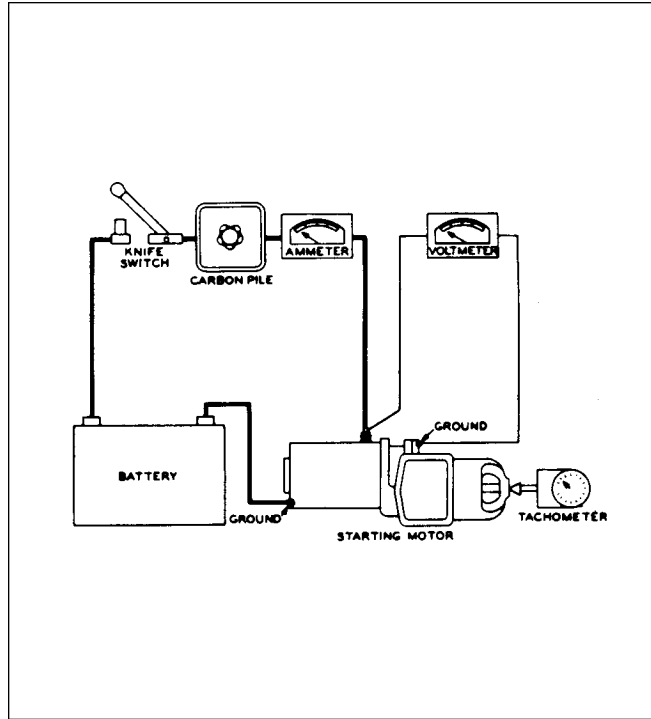

Figure 11-42. No-Load Test Hook-Up
- a. After the starting motor is reassembled, it should be tested to see that the no-load current at a certain voltage is within specifications as given in paragraph 11-62. To make this test, connect as shown in Figure 11-42. If current is too high, check the bearing alignment and end play to make sure there is no binding or interference. Two or three sharp raps on the frame with a rawhide hammer will often help to align the bearings and free the armature.